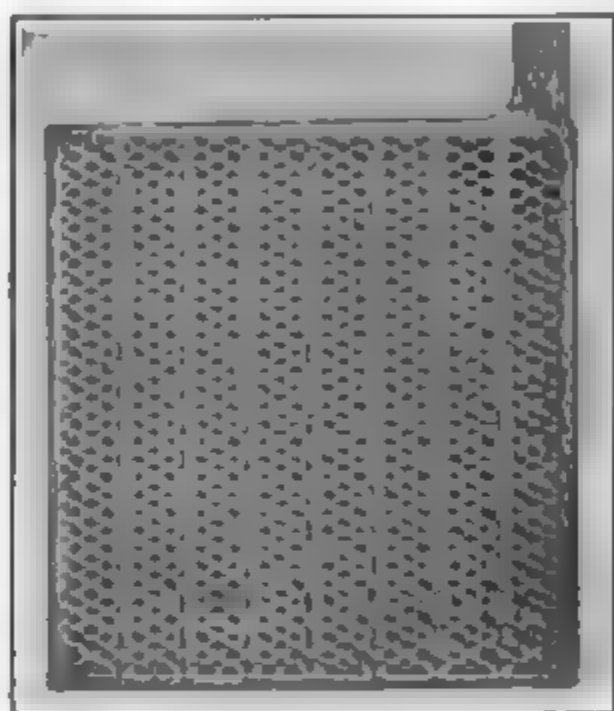

Fig. 382. Lead Grid Ready for Active Material
**Parts of Cell. Elements.** These are known as the positive and negative plates and correspond to the positive and negative electrodes of a primary battery. They consist of a foundation composed of a casting of metallic lead in the form of a grid, the outer edges and the connecting lug being of solid lead, while the remainder of the grid is like two sections of lattice work so placed that the openings do not correspond. Every manufacturer has different patterns of grids, but this description will apply equally well to all of them. Fig. 382 illustrates the grid of the Philadelphia battery. The object in giving them this form is to make the active material of the plates most accessible to